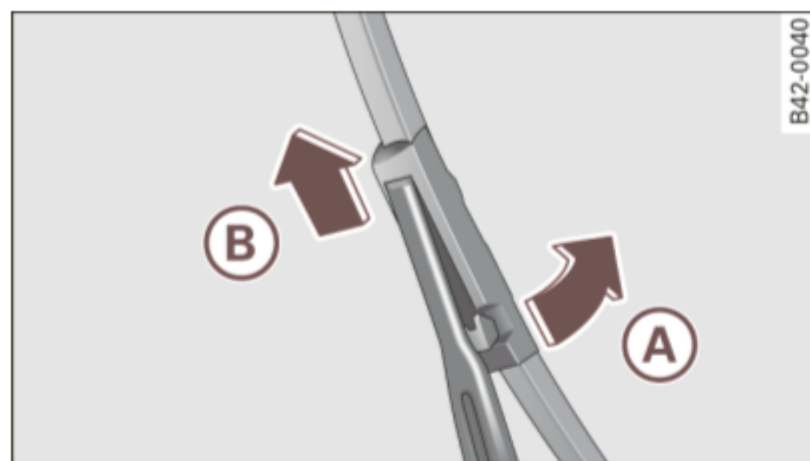

Fig. 50 Removing wiper blades
- Rotate the wiper blade in the direction of the arrow **A** ⇒ *fig. 50* away from the wiper arm.
- Place the rounded end of the wiper onto the end of the wiper arm in the **opposite** direction to the arrow **B** ⇒ *fig. 50*.